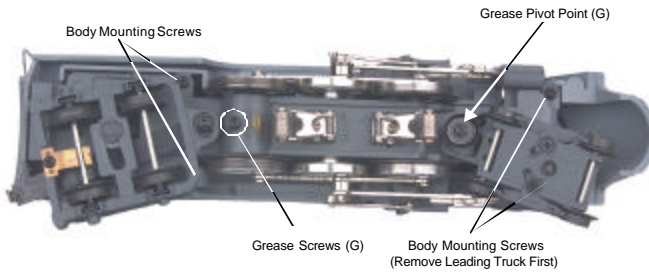
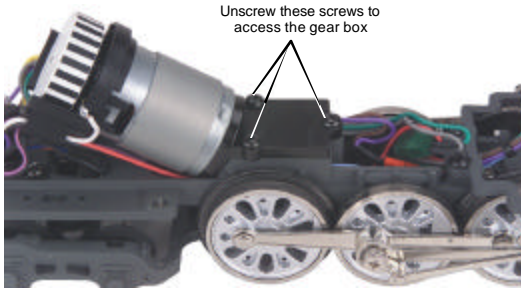

Figure 6: Removing The Body
Figure 7: Opening The Gearbox
2. Remove the boiler by removing the body mounting screws shown in Fig. 6
3. Remove the Phillips screw (marked “GREASE”) located at each set of wheels (Fig. 6) and the gearbox cover screws (Fig. 7).
You should also grease the leading and trailing locomotive truck tongues to enhance their ability to slide on the chassis. Follow the grease points shown on Fig. 6.
If you experience poor or no smoke output when the smoke unit is on and has fluid, check the wick to see if it has become hard, blackened, and unabsorbent around the heating element. To remove the smoke unit you will first have to remove the boiler shell (by removing the body mounting screws shown in Fig. 6 on pg. 13), board and bracket that block the smoke unit assembly from being accessed. To do this, follow these instructions: